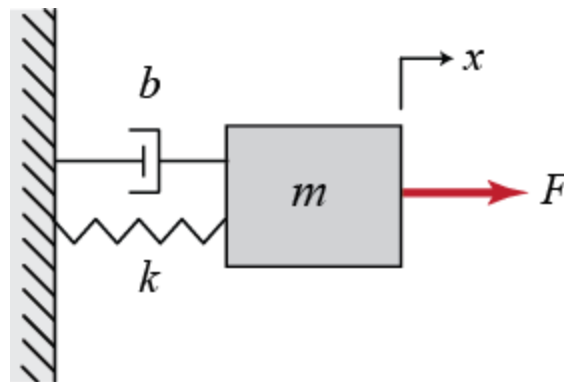

Fig:1
Q.1 [CO1,4] Explain the methods of vibration measurements in industrial applications. (4)
Q.2 [CO2,3] Draw the system response for different damping ratio values. Justify the significance of each case. (4)
Q. 3[CO 1,4]] Describe with neat sketches the following types of primary detecting element. (4)
Q.4 [CO 2,3] Design the PID Controller for the system shown in Fig:1 above for unity feedback. Also draw the block diagram. (4)